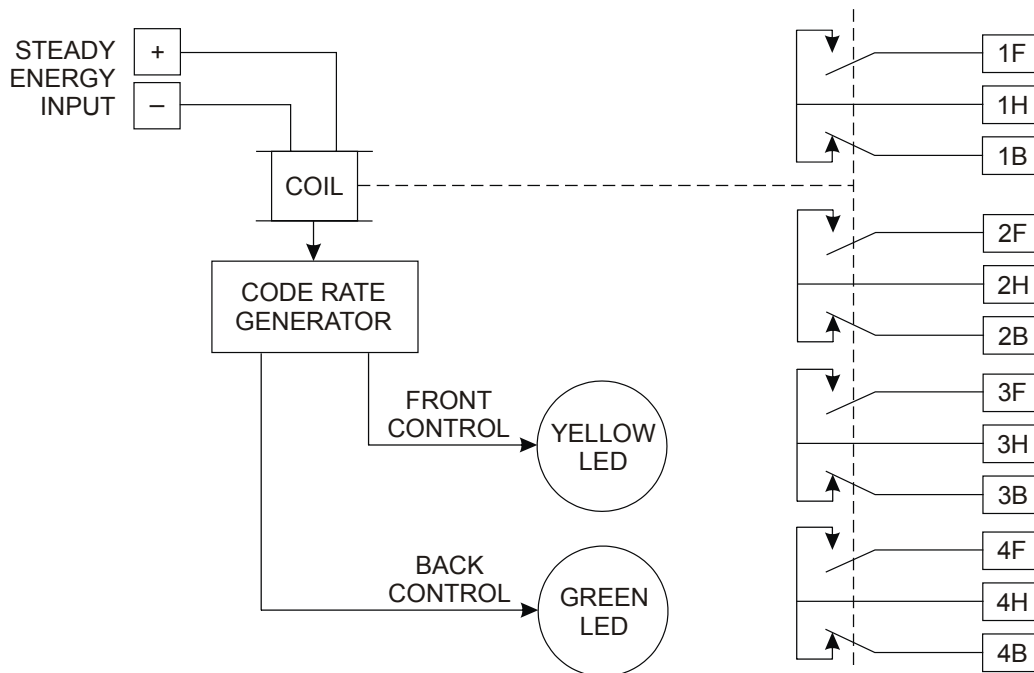
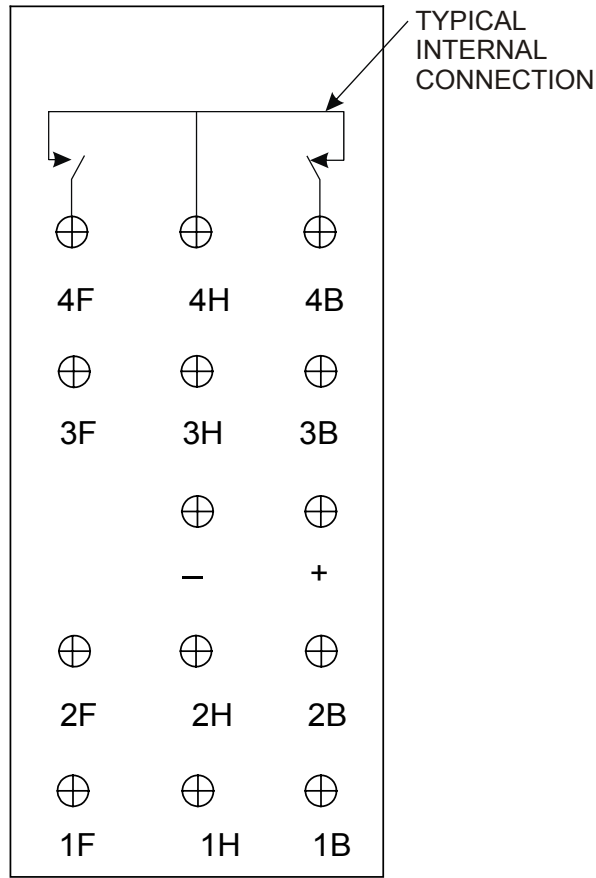

Figure 3-1 - DM SSCT Functional Block Diagram
Figure 3-2 - Relay Terminals and Internal Wiring
| Figure 3-1 - DM SSCT Functional Block Diagram .....                                | 3-1 |
| Figure 3-2 - Relay Terminals and Internal Wiring .....                             | 3-2 |
Referring to Figure 3-1, the SSCT contains four pairs of output switches. Each switch pair has three connections - front (F), back (B), and heel (H). The number associated with each connection denotes the switch pair. For example, "1F" is the front connection and "1B" is the back connection of the switch pair "1." The terminals are mounted on the top of the relay and are shown in Figure 3-2.